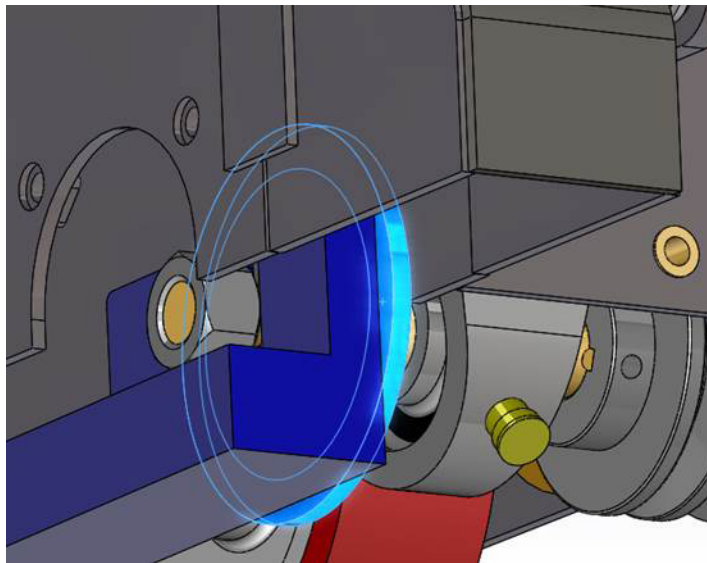

Figure 13. Flange Face Flush
14. Inspect that face is "freely" flush with flange face (Figure 13).